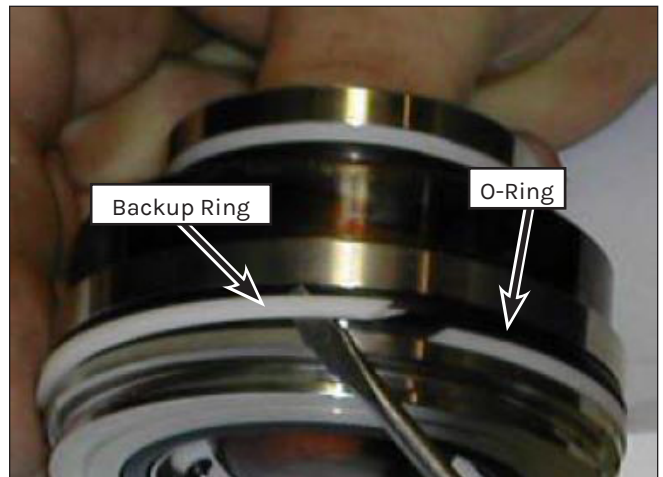

Figure 110: Backup Ring and O-Ring Removal.
2. Locate the slits in the two white backup rings and carefully remove the rings. Remove the companion O-rings, as well (Figure 110). Discard the O-rings and backup rings.
6. Install the new O-rings and backup rings into their respective positions on the assembly (Figure 110).